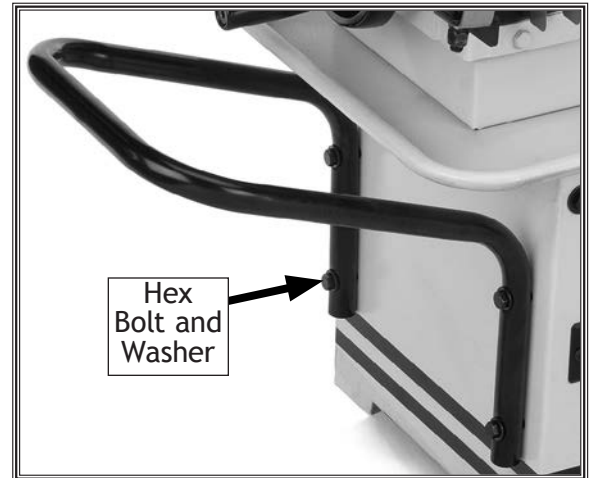

Figure 10. Installed handle.
2. Align the handle mounting holes with the bandsaw holes, and install the 5/16"-18 x 1-1/4" hex bolts, washers, and nuts (see **Figure 10**).